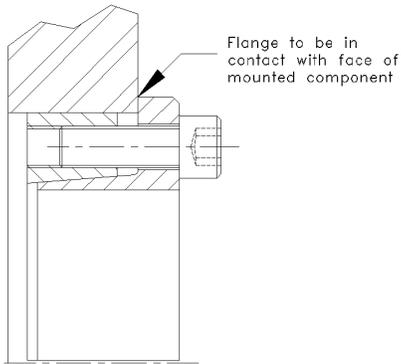

Figure 1
3. Insert CLIMAX Series C192 into component bore, then transfer screws used to separate collars back to their original position. Note that the flange must be in contact with the face of the mounted component (see Figure 1).